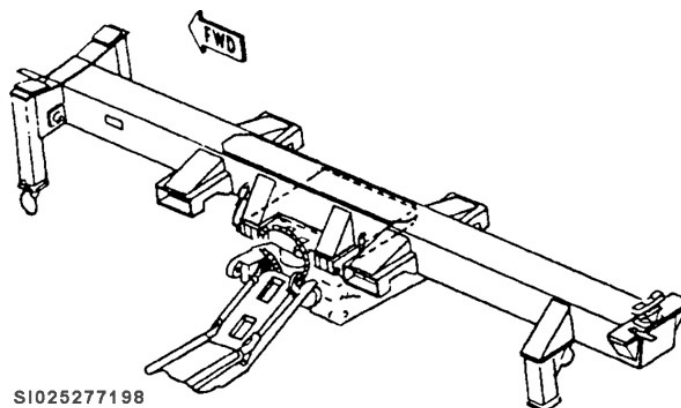

Figure 4-20. Manipulator head positioning under the handling unit.
4. Position the manipulator head under the handling unit, line up the attach lugs with the slots in the manipulator head, and mate the two. Use the four quick-release pins to secure the handling unit to the lift truck (fig. 4-20).